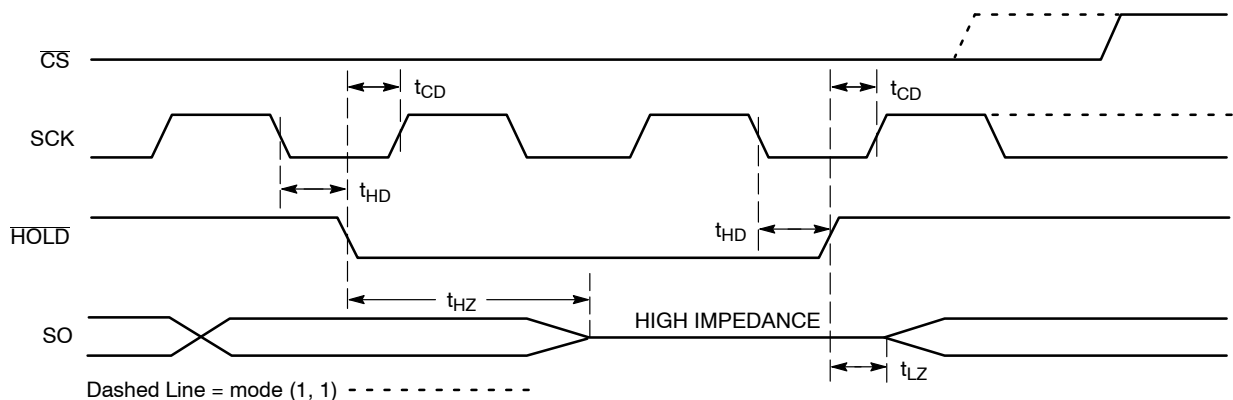

Figure 11. $\overline{\text{HOLD}}$ Timing
The $\overline{\text{HOLD}}$ input can be used to pause communication between host and CAV25010/20/40. To pause, $\overline{\text{HOLD}}$ must be taken low while SCK is low (Figure 11). During the hold condition the device must remain selected ($\overline{\text{CS}}$ low). During the pause, the data output pin (SO) is tri-stated (high impedance) and SI transitions are ignored. To resume communication, $\overline{\text{HOLD}}$ must be taken high while SCK is low.